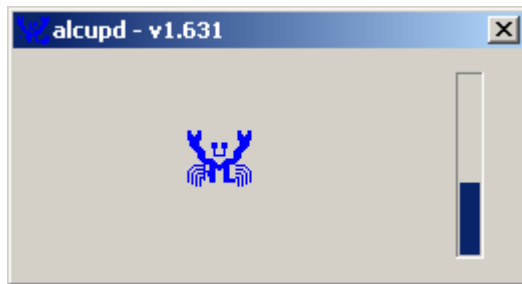

Figure 7-45: Audio Driver Installation
Step 13: Click **YES** and the driver installation begins (**Figure 7-45**).